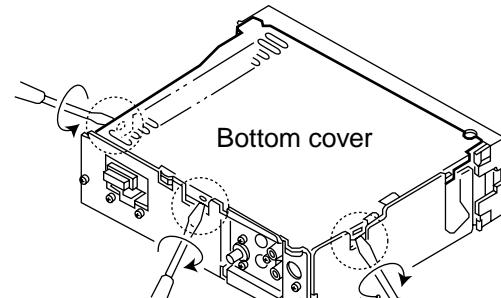

Fig. 2
■ Removing the bottom cover and heat sink (see Fig.2,3)